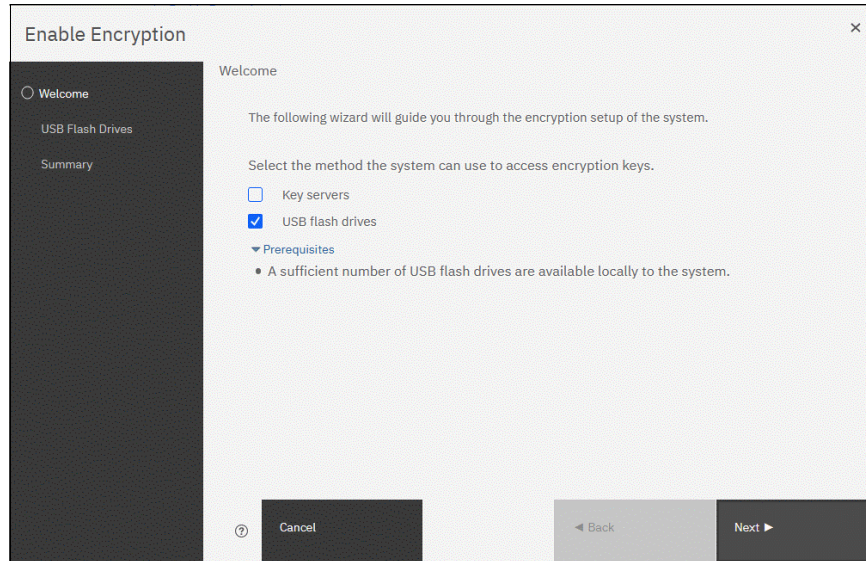

Figure 12-24 Selecting USB flash drives in the Enable Encryption wizard
1. In the Enable Encryption wizard **Welcome** tab, select **USB flash drives** and click **Next**, as shown in Figure 12-24 on page 757.